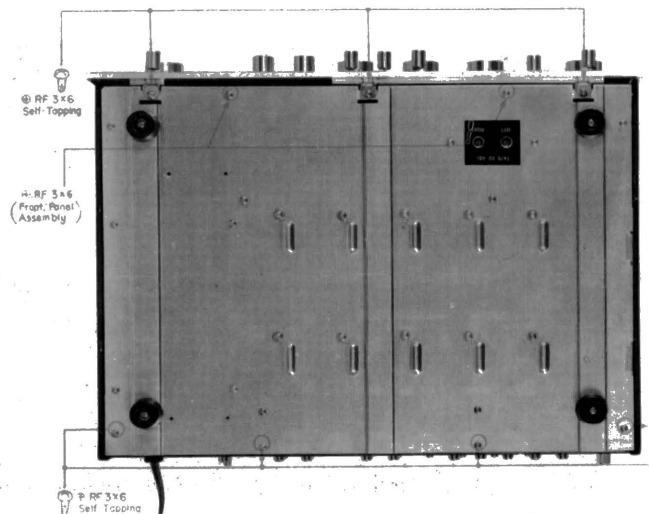

Fig. 2-3. Removal of Front-Panel Ass'y
- Turn the set over and remove the two self-tapping screws (+RF3 $\phi$  ×6) from the front-bottom edge of the chassis. See Fig 2-3.
- Turn the set over and remove the three Phillips-Head screws (+RF3 $\phi$   $\times$ 6) at the front-bottom edge of the chassis. See Fig. 2-3. This frees the Front Panel.